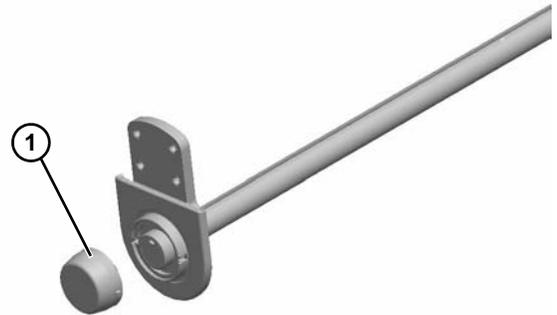

Figure 44
- Remove bearing cover (Figure 44, item 1).